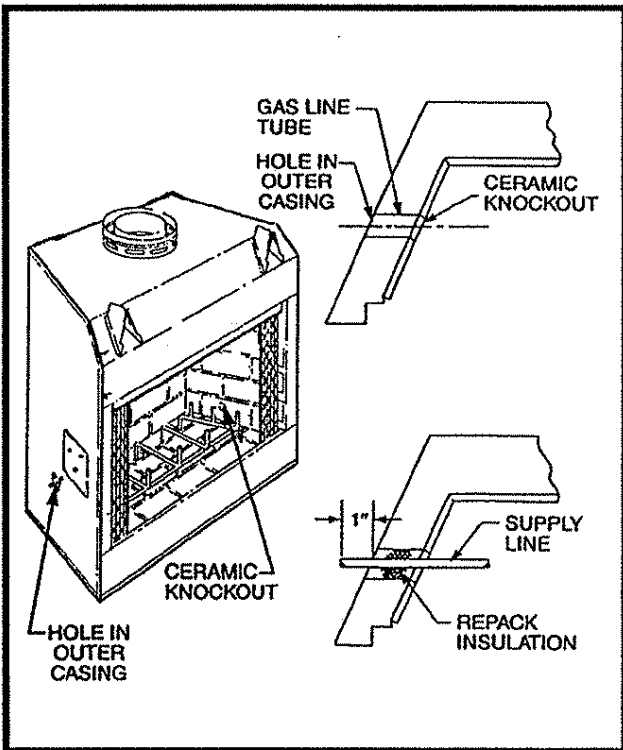

Fig. 26. Install iron pipe gas line through hole provided in either side of the fireplace.
Locate the gas line hole in the outer casing of the fireplace and remove the insulation from the gas line tube. (Refer to Fig. 26.)
**NOTE:** The gas pipe should not come in contact with any wood structures until it has reached a point at least one (1) inch away from the fireplace side. (See Fig. 26 for installation clarification.)